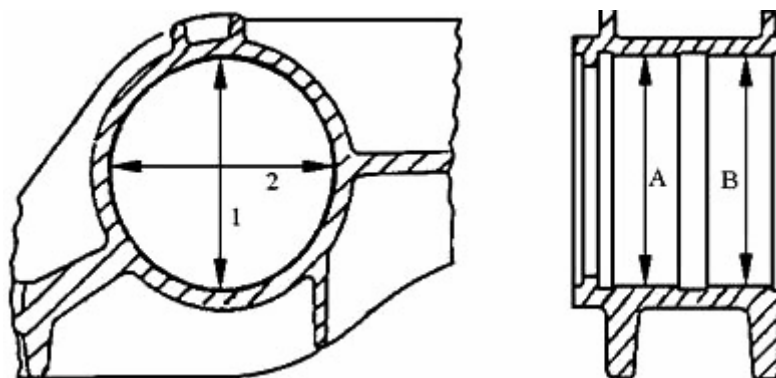

Figure 1: Checking Bore of Bearing Housing
- C.2 Measure the bearing bore. The bore shall be measured in two positions 90° apart i.e. 4 individual readings as indicated in Figure 1. The following inspection criteria shall apply: